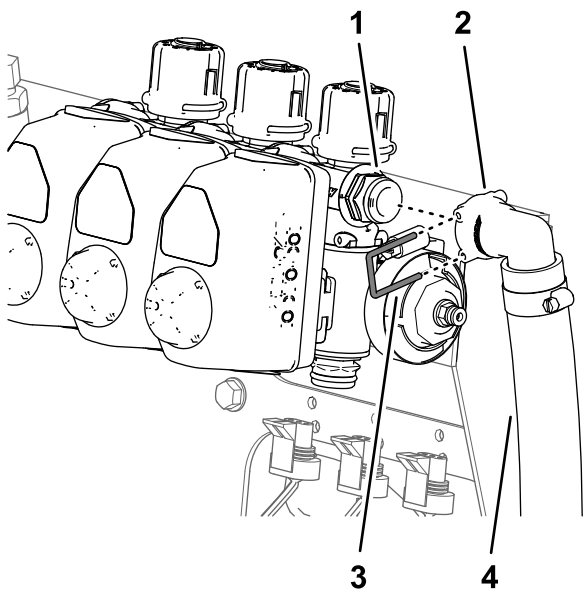

Figure 59
- **For machines without the optional hand wand kit or optional electric hose reel kit**, remove the small retainer that secures the quick-disconnect fitting of the bypass hose to the quick-disconnect fitting of the right section-bypass valve (Figure 59).